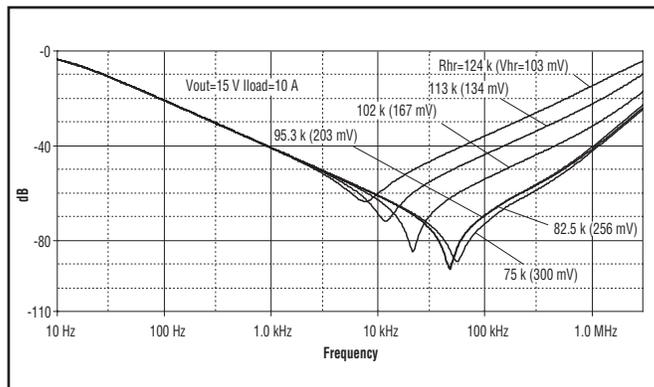

Figure 6 – Attenuation for different headroom settings with value of  $R_{HR}$  and  $(V_{hr})$ .
Figure 6 shows the headroom versus attenuation relationship of the QPO-1 for a 15 Volt output. This relationship is relatively constant over the full output voltage rating of the QPO-1 so Figure 6 can be used to select headroom voltage for any converter output voltage in the 3 to 30 Volt range of the QPO-1.
The final headroom voltage selection should be based on the maximum expected ripple, desired attenuation and transient response needed. Formulas for the slope adjust Rsa and Rsc values will be provided in their respective sections. **The headroom adjustment shown in Figures 6 and 7 show increasing headroom voltage will increase the attenuation over the range of 10 kHz to over 1 MHz.**
To ensure sufficient headroom during a transient load change additional headroom voltage may be required to provide margin and cover the instantaneous drop in the converter output. In the example shown in Figure 2, an additional 75 mV was included with the headroom value selected from the graph in Figure 6 to cover the transient drop-in the supply output during the 10 Amp step.
In this example 300 mV was chosen as a reasonable value to set the headroom ( $V_{HR}$ ) since it is at the point of diminishing returns based on the attenuation graph in Figure 6. To stay within the dynamic range required by the active loop during the load transient, a total of 375 mV was used in the  $R_{HR}$  formula to determine the value of the  $R_{HR}$  resistor. The peak detector will dynamically add 30 mV (derived from the 60 mV peak to peak input ripple) to the static headroom setting, providing the total dynamic headroom of approximately 405 mV with the detector enabled.
- No slope adjust, no peak detect, fixed headroom, attenuation vs headroom graph in Fig. 6 and 7 apply